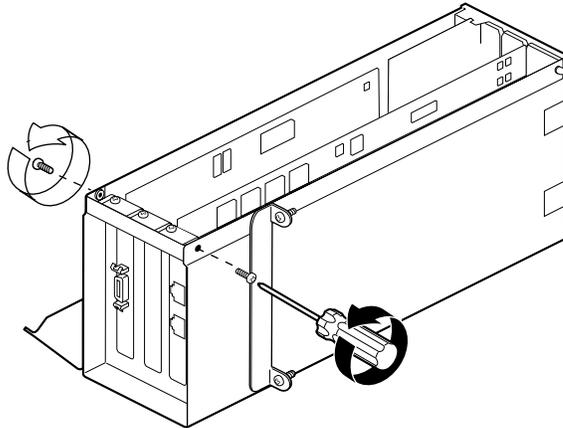

Figure 4-21 Removing the I/O Door Screws
2. Completely remove the screws that secure the I/O door to the PCI module, as shown in Figure 4-21.